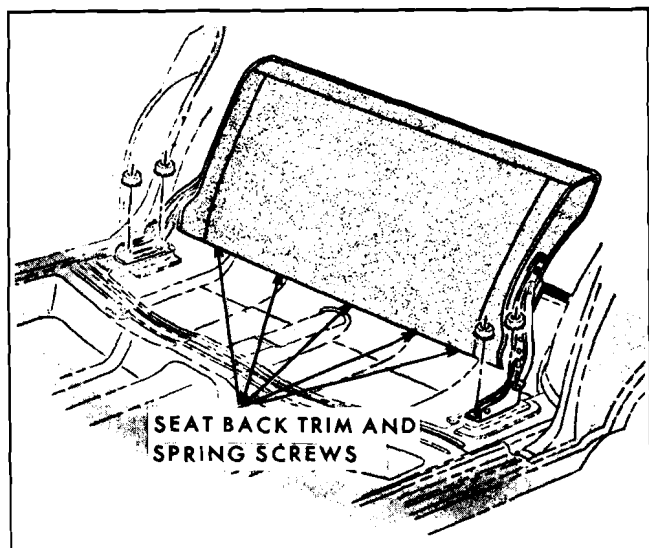

Fig. 15-77—Second Seat Back Trim and Spring Assembly
2. On underside of second seat back panel, remove screws securing seat back trim assembly to seat back panel (See Fig. 15-77).